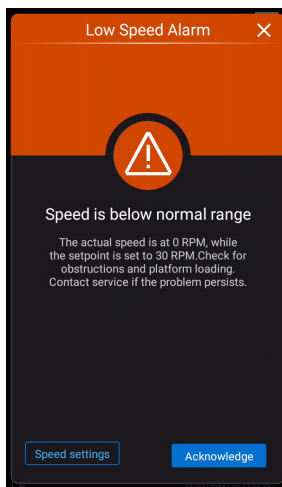

Figure 4
8. Alarm box, click on the background area to display detailed alarm information as shown in the figure 4.